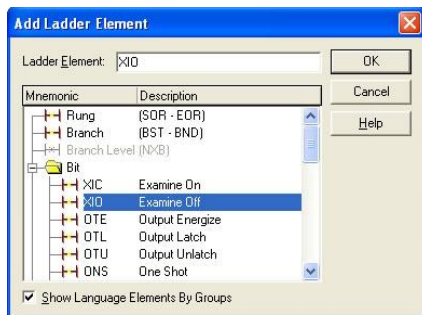

Figure 46: Adding an XIO Element
- Select the "XIO" element in the Bit folder. Refer to Figure 46.